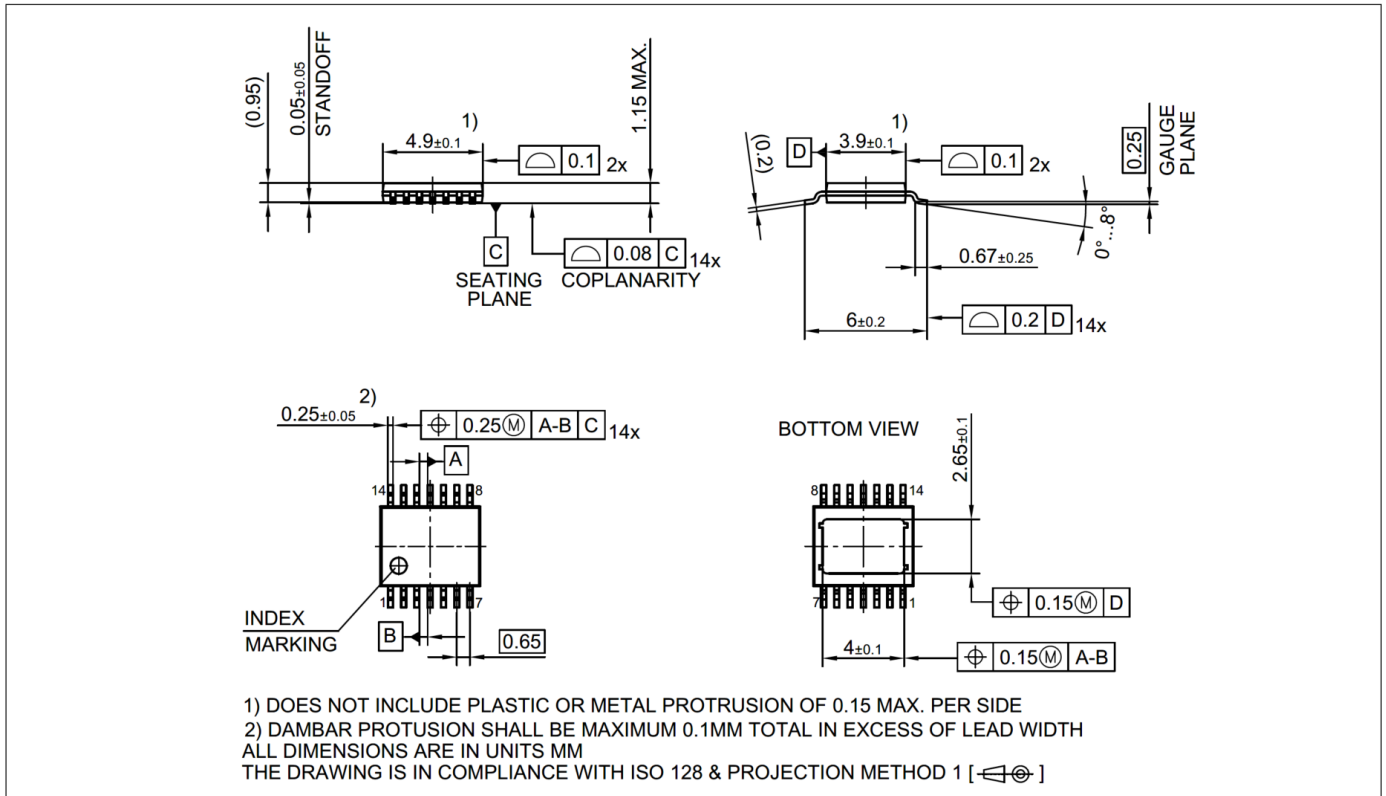
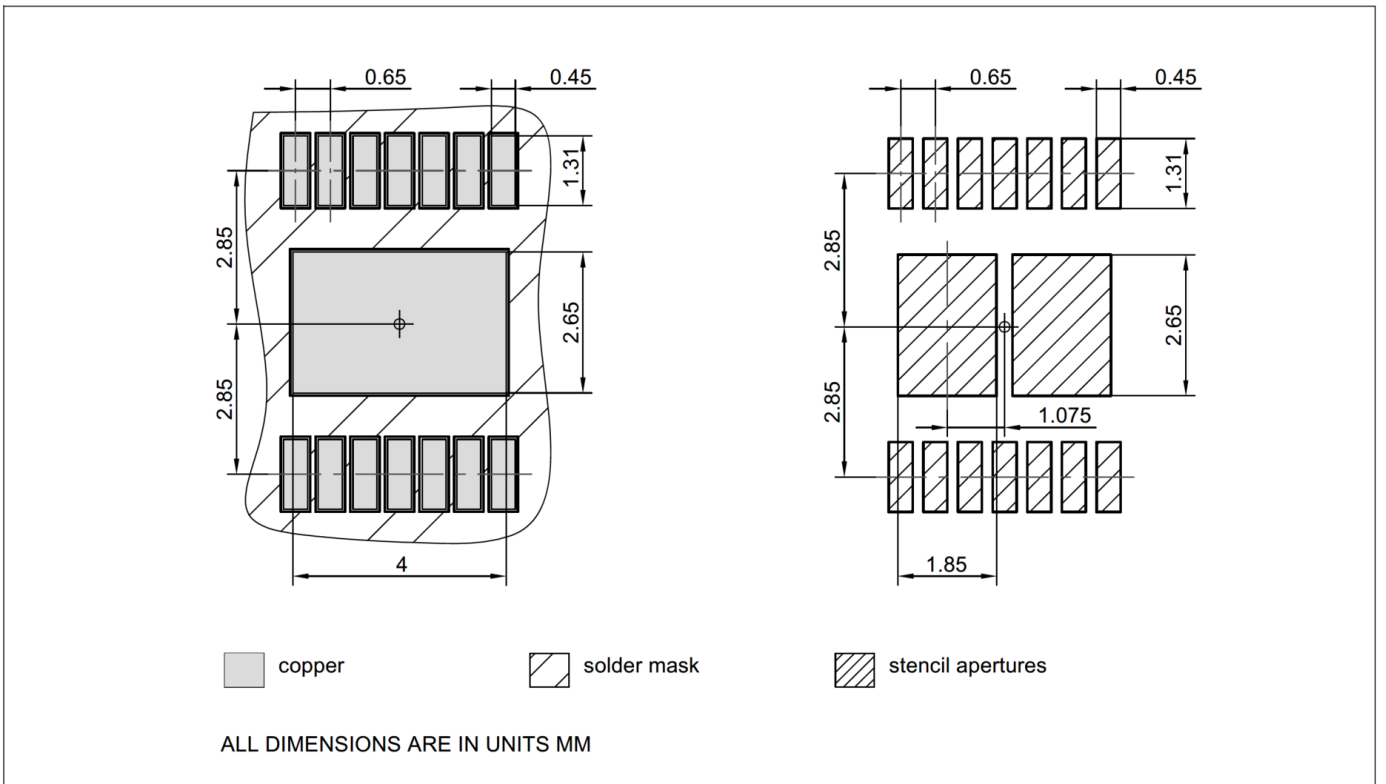

Figure 44 PG-TSDSO-14 (Thin (Slim) Dual Small Outline 14 pins) Package Outline
Figure 45 PG-TSDSO-14 (Thin (Slim) Dual Small Outline 14 pins) Package pads and stencil
1.04, 2019-06-26	<p>Chapter 9.2 updated ($2 V \rightarrow V_{DS(OLOFF)}$)</p> <p>General: updated (ReverSave™ → ReverseON)</p> <p>Chapter 1 updated ((inserted headline "Product Validation"), (Qualified in accordance with AEC Q100 grade 1 → Qualified for automotive applications. Product validation according to AEC-Q100 Grade 1.))</p> <p>General: updated Product Name (PROFET™+2 → PROFET™+2 12V)</p> <p>Page 1: updated figure product</p> <p>Table 24 updated punctuation</p> <p>Chapter 9.3.1 updated (typo)</p> <p>Page 1: updated (Package PG-TSDSO-14-22 → Package PG-TSDSO-14)</p> <p>Figure 29 updated</p> <p>Figure 44 updated (PG-TSDSO-14-22 (Thin (Slim) Dual Small Outline 14 pins) Package Outline → PG-TSDSO-14 (Thin (Slim) Dual Small Outline 14 pins) Package Outline)</p> <p>Figure 45 updated (PG-TSDSO-14-22 (Thin (Slim) Dual Small Outline 14 pins) Package pads and stencil → PG-TSDSO-14 (Thin (Slim) Dual Small Outline 14 pins) Package pads and stencil)</p> <p>Table 1 updated ((Symbol: $I_{VS(SLEEP)} \rightarrow I_{VS(SLEEP)_85}$), (Parameter: Minimum Overvoltage protection ($T_J = 25 \text{ °C}$) → Minimum Overvoltage protection ($T_J \geq 25 \text{ °C}$))</p> <p>P_9.6.0.6 updated (Note or Test Condition: removed unnecessary line-break)</p>